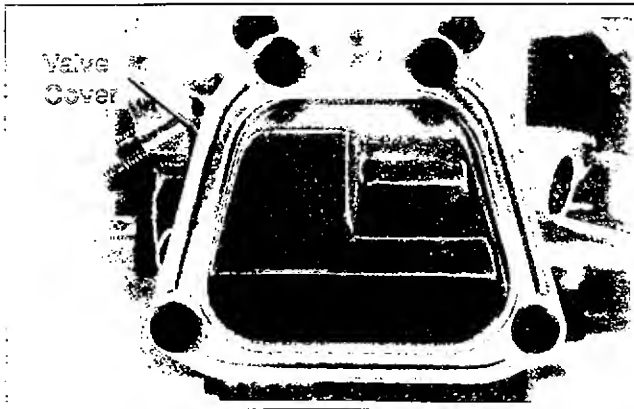

Figure 9-13. Removing Valve Cover.
1. Remove the hex. flange screws from the valve cover. See Figure 9-13. Remove the valve cover from the cylinder head.